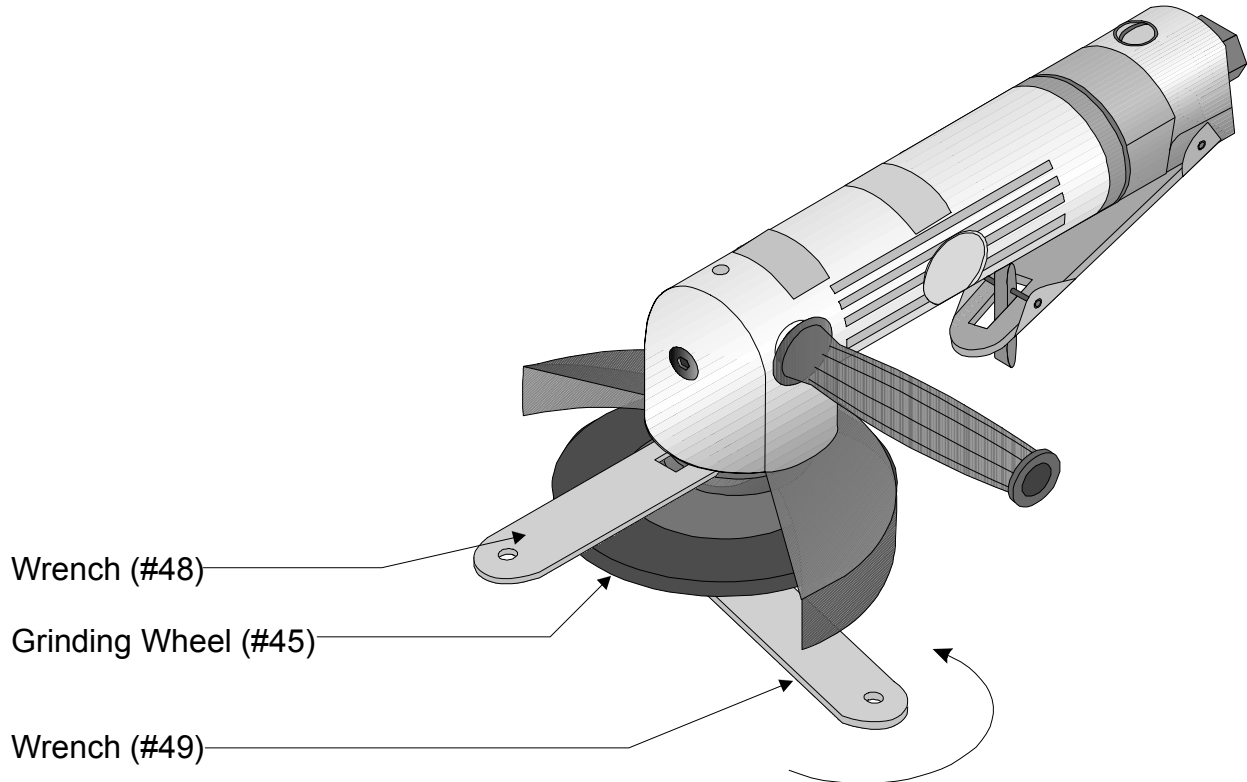

Figure 4 — Tightening the Flange Nut
Step 7: Hold the flat WRENCH (#48) while tightening the angled WRENCH (#49) to tighten the Flange Nut as shown in Figure 4.